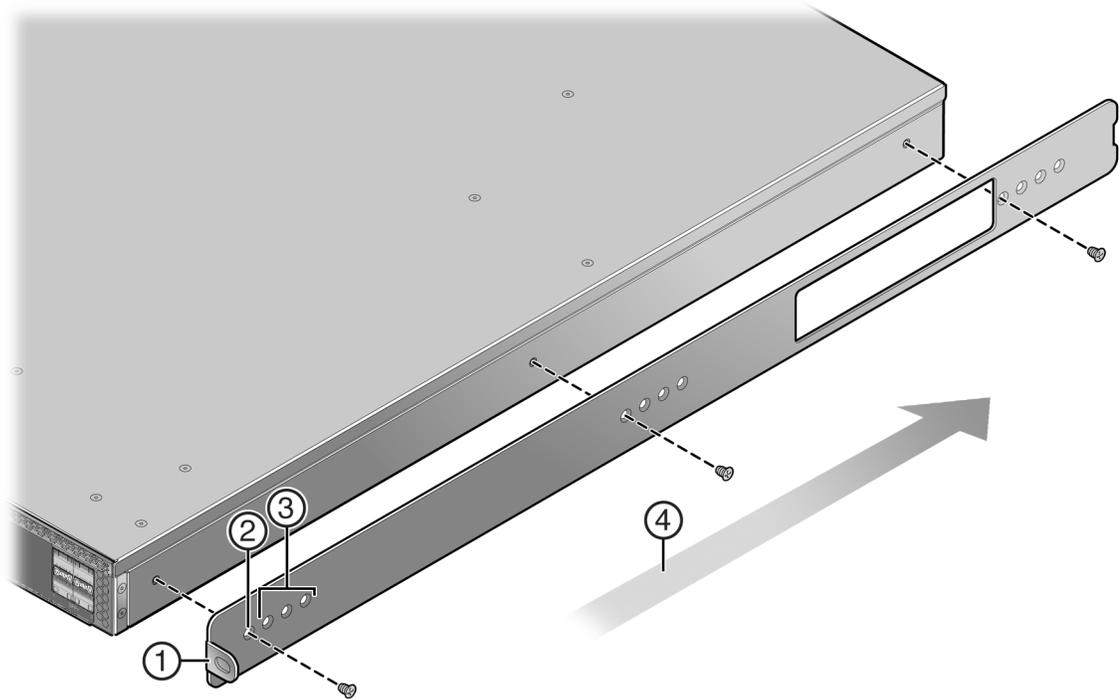
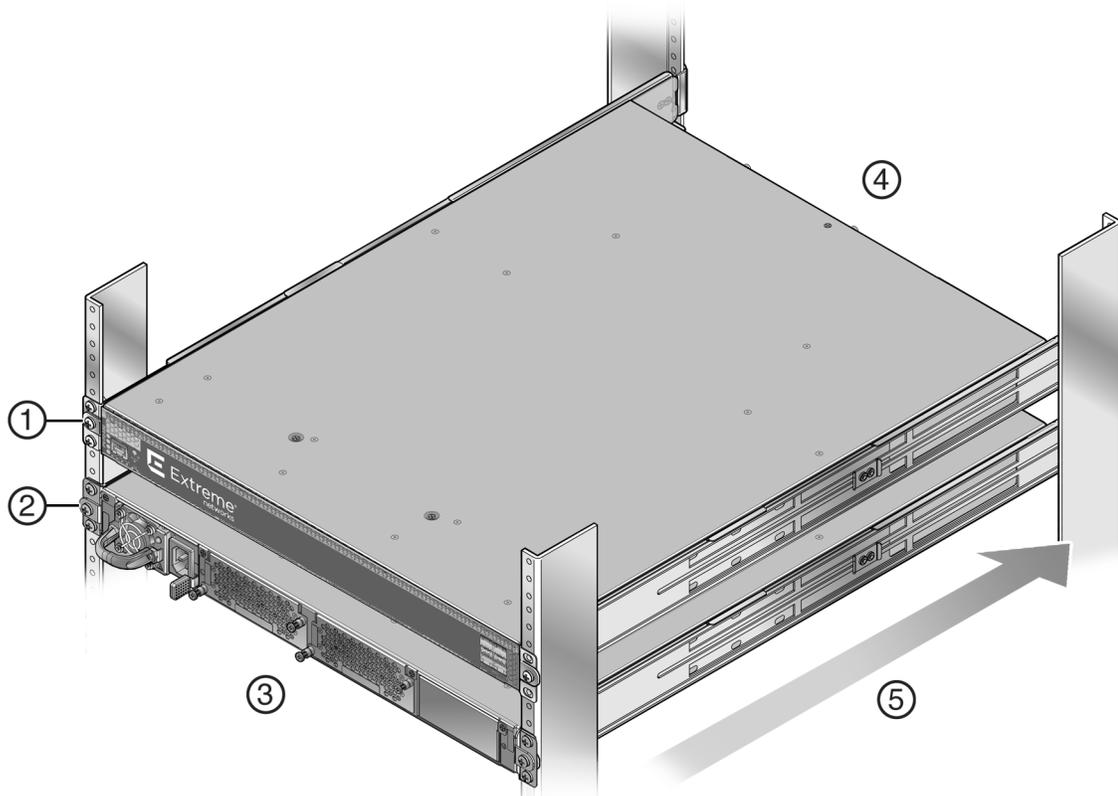

Figure 21: Installing the Adapter Plates
Figure 22: Four-Post Rack Supported Configurations
- 1 Place the adapter plates on each side of the chassis with the ear end toward the air intake side of the chassis, ear flange pointing away from the chassis. Figure 21: Installing the Adapter Plates on page 56 shows the correct orientation for a chassis with air flow from switch I/O port side to power supply side.
Figure 22: Four-Post Rack Supported Configurations on page 57 displays the four-post rack flush mount configuration for both air flow directions. The recessed chassis configurations (configured when installing the adapter plates, see Figure 21: Installing the Adapter Plates on page 56) are not displayed.